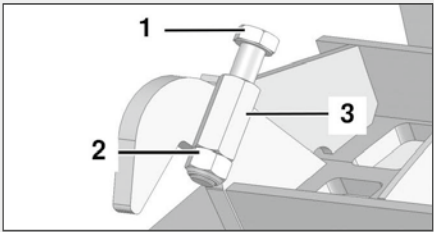

Fig. 2: Hex bolt screwed with hex nut
1. At the four hooks of the replaceable rear basket grid, screw the hex bolt (fig. 2/1) into the weld nut (fig. 2/2) and loosen the hex nut (fig. 2/2) until the hex bolt (fig. 2/1) is flush with the end of the hex nut (fig. 2/2).
- Ensure that the hex nut (fig. 2/2) remains loose.